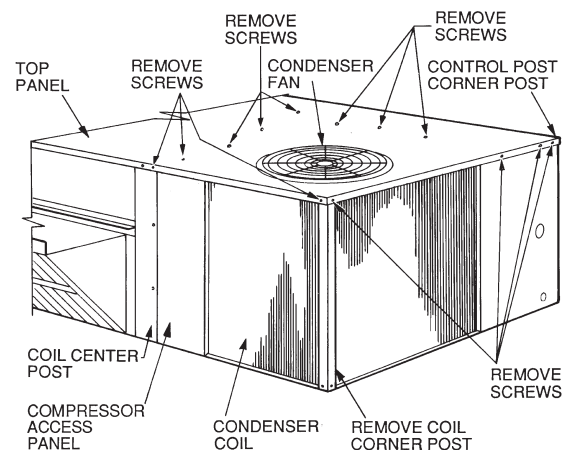
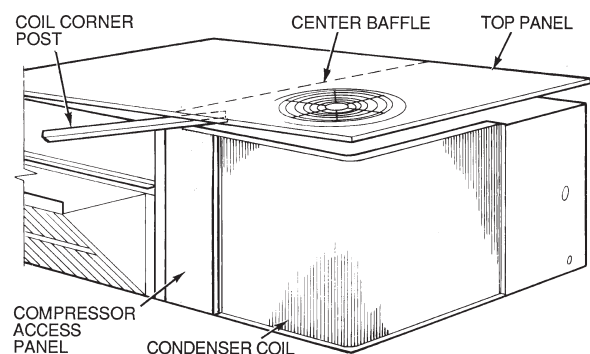

Fig. 16 — Cleaning Condenser Coil
Fig. 17 — Propping Up Top Panel
3. Remove condenser coil corner post. See Fig. 16. To hold top panel open, place coil corner post between top panel and center post. See Fig. 17.